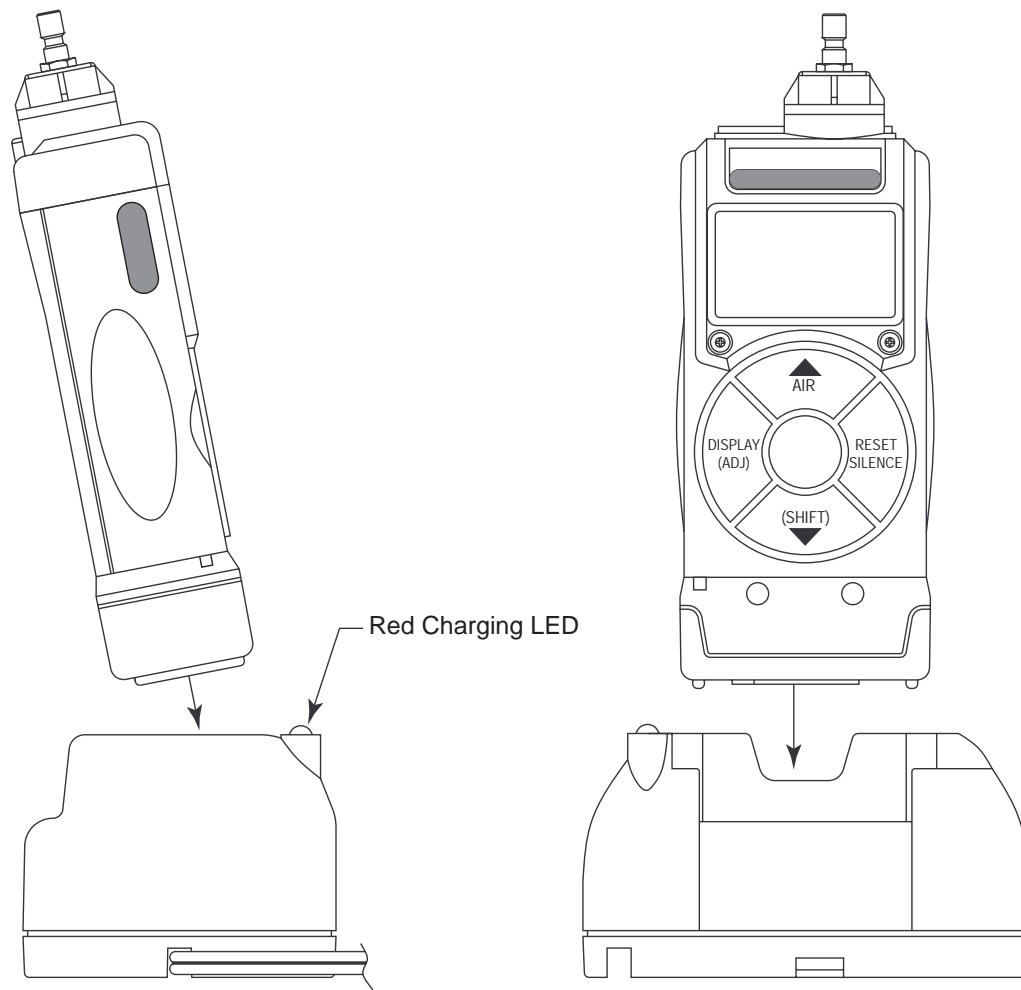

Figure 6: Putting the GX-2003 into the Charging Station
3. Place the GX-2003 into the battery charging station as shown in Figure 6 below so that the metal contacts on the bottom of the unit come into contact with the metal contacts in the bottom of the holder in the charging station. When proper contact has been made, the red LED on the charging station will turn on.